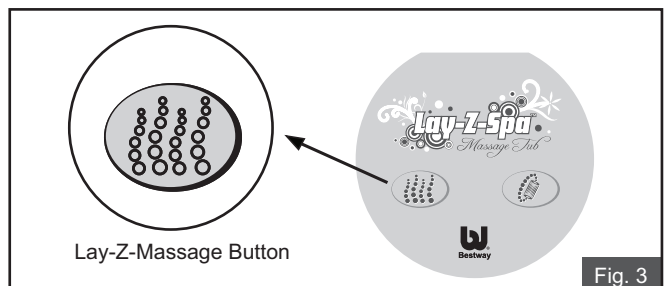

Fig. 3
3. Press the Lay-Z-Massage button to activate the pump. (See Fig. 3)